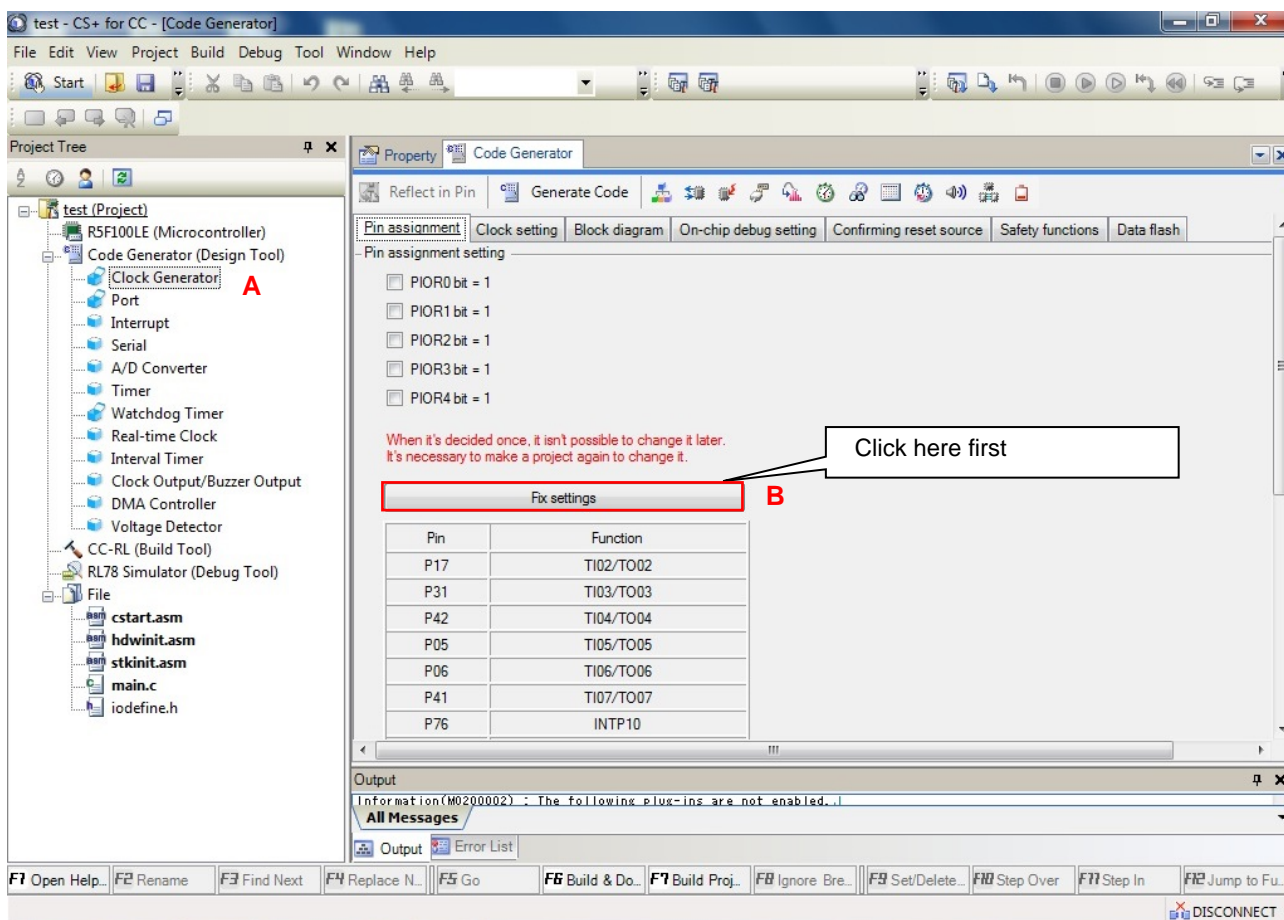

Figure 2.1 Code Generator Setting Window (1)
- (1) Under [Project Tree], click [Clock Generator] in [Code Generator (Design Tool)]. (Figure 2.1 A).
- (2) Perform “Pin assignment” and click the [Fix settings] button. (Figure 2.1 B)